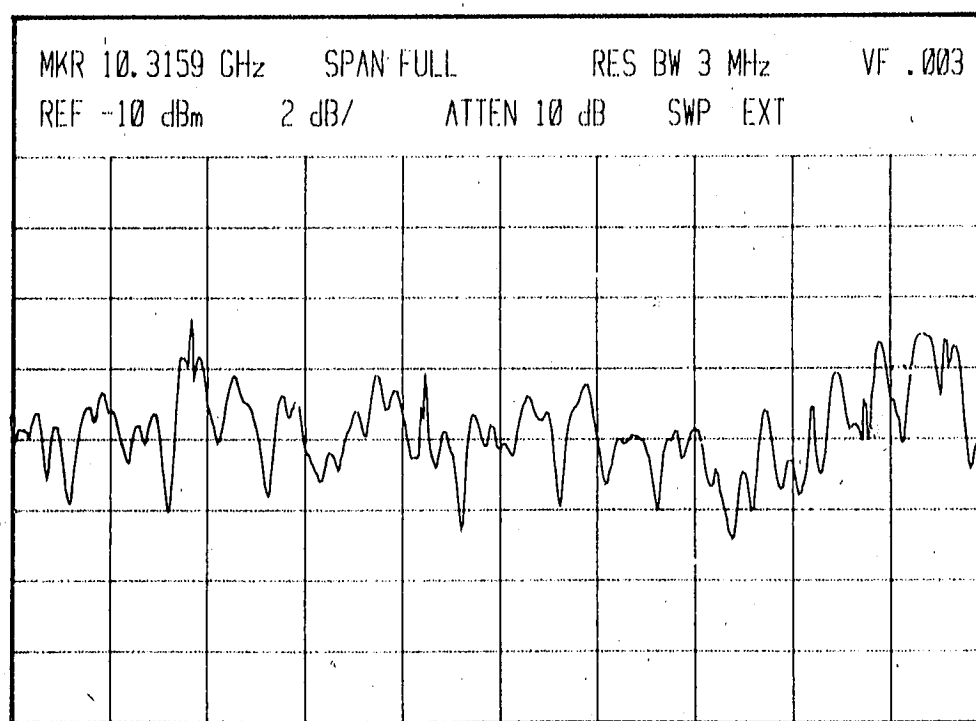

Figure 5-50. Phase Locked Spectrum Analyzer CRT Display (10.5–18 GHz)
11. Adjust A20R105 V6 over full range and note position for minimum ripple on CRT trace. Set A20R105 V6 for minimum ripple (see Figure 5-50).